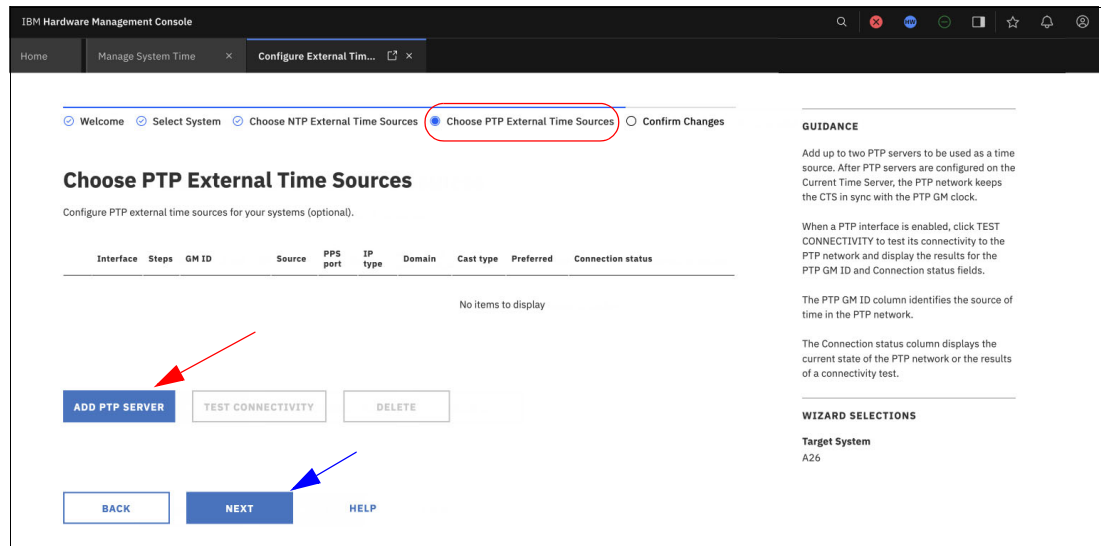

Figure 4-37 Choose PTP as ETS menu
1. In the Manage System Time task, select the button **Choose PTP External Time Source** at the top of the screen to view the menu and the target server for the configuration. (Figure 4-37 on page 87).